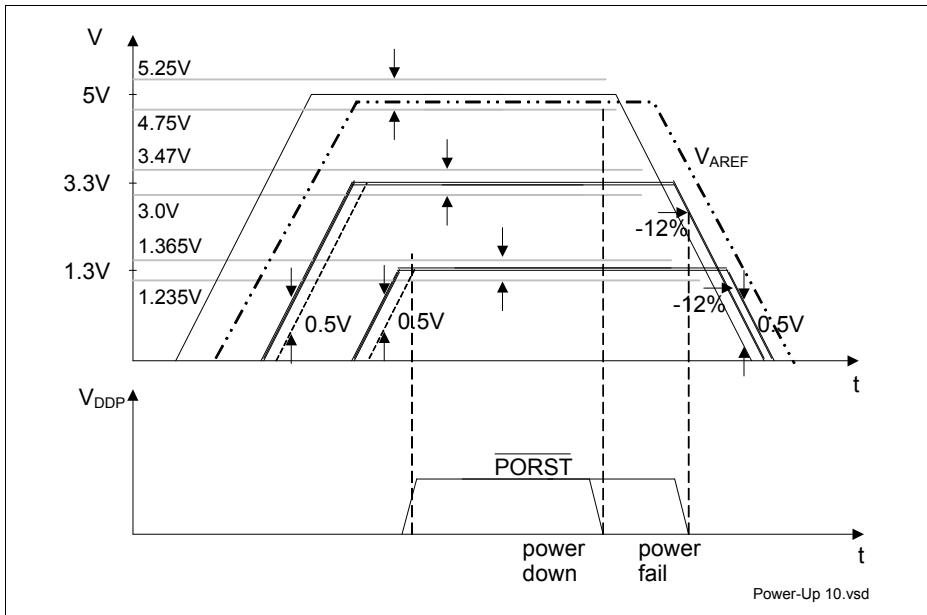

Figure 12 5 V / 3.3 V / 1.3 V Power-Up/Down Sequence
- At any moment in time to avoid increased latch-up risk, each power supply must be higher than any lower_power_supply - 0.5 V, or: $VDD5 > VDD3.3 - 0.5 \text{ V}$; $VDD5 > VDD1.3 - 0.5 \text{ V}$; $VDD3.3 > VDD1.3 - 0.5 \text{ V}$, see **Figure 12**.